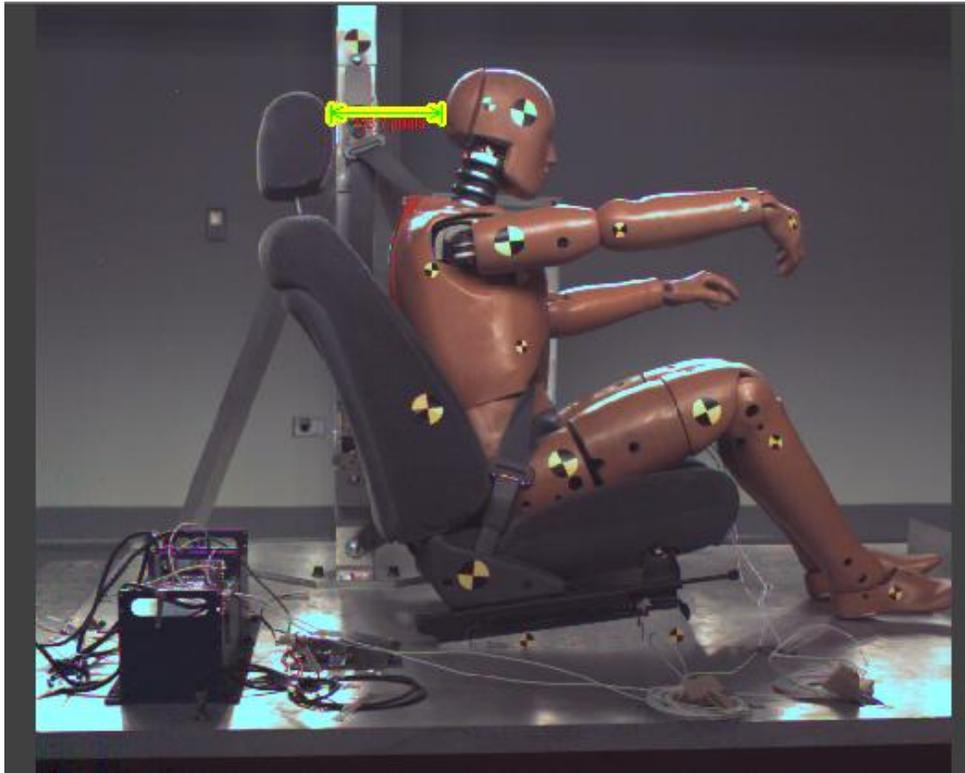

Figure 2. Measured Length Annotation
6. The length dimension will appear in pixels. The length dimension is given in the same units that were used for calibration, or in pixels if no calibration was done. Figure 2 shows the highlighted length dimension.